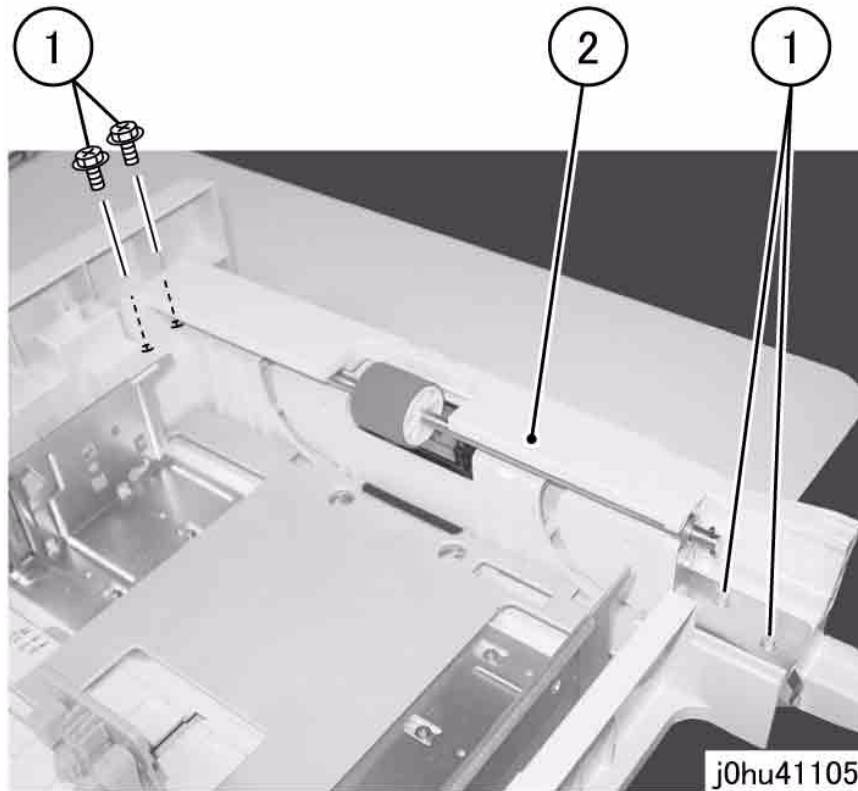

Figure 1 Remove Tray 2 Feeder
2. Remove the Tray 2 Feeder (Figure 1).